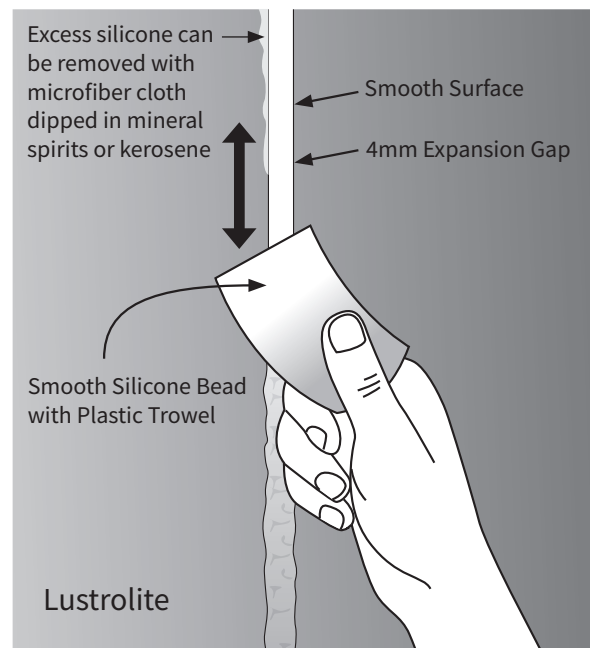

Figure 28: Finishing Silicone at Joints
- Remove excess silicone with plastic trowel to create a flush finish with panel surface (Figure 28)